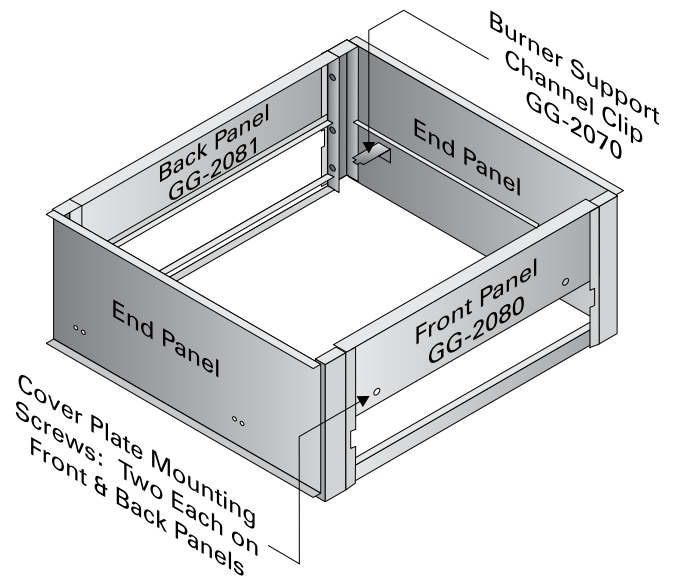

Figure 2.2: Steel Base Assembly
2. Open crate number 2. Remove the End Panels and mount a Support Channel Clip toward the rear on each panel as shown in Figure 2.2 using 1/4"-20 x 1/2" (13 mm) long round head machine screws and 1/4" lock washers provided.
3. Attach the Front Panel and Back Panel (Figure 2.2) to the Left Hand End Panel using 5/16"-18 x 1" (25 mm) long cap screws and hex head nuts provided.